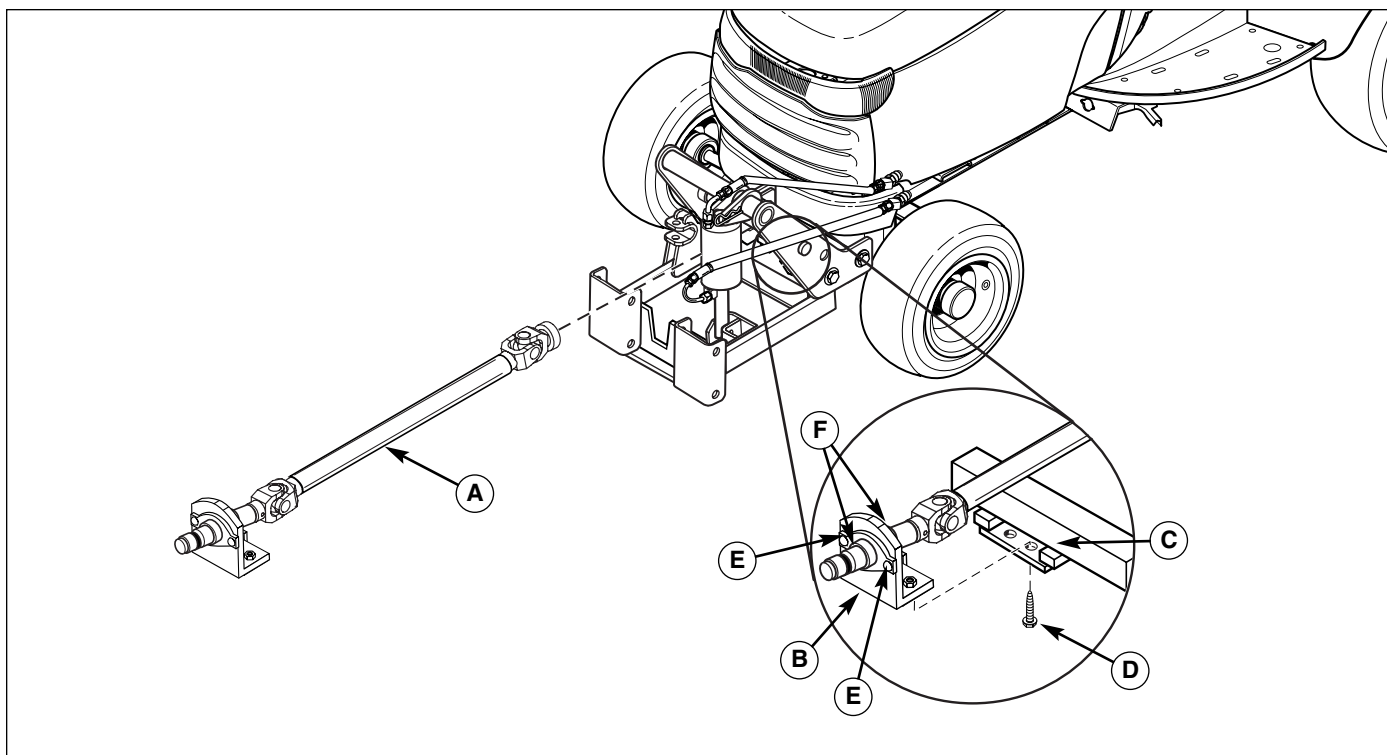
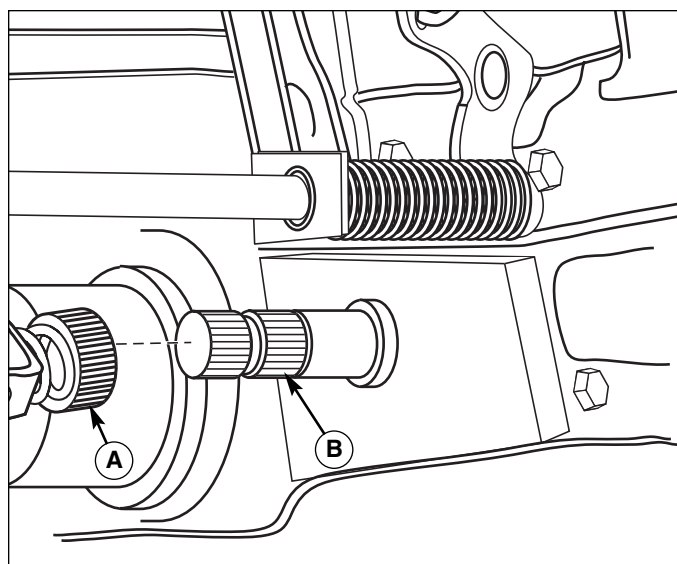

Figure 11. Front Hitch Mounting Brackets
Figure 12. Attachment Lift Extension
1. Slide the drive shaft (A, Figure 11) in from the front. Line up the support bracket (B) with the front hitch (C). Simultaneously line up the the locking collar of the drive shaft (A, Figure 12) with the gear drive of the transmission (B).
2. Slide the support bracket (B, Figure 11) in to the front hitch (C) about 1/2". Connect the locking collar (A, Figure 12). Pull back on the locking collar (A) and slide the drive shaft fully onto the transmission (B). Release the locking collar and pull back on the drive shaft until the locking collar locks onto the shaft.
4. Slide the support bracket (B, Figure 11) all the way into the front hitch (C). The support bracket (B) should be touching the front hitch. Tighten cap-screws (D).
Note: If the support bracket does not touch the front hitch (C, Figure 11) loosen the set collars (F) carriage bolts and nuts (E) holding the bearing holders. Slide the bracket to the front hitch (C) and tighten the set collars (F) carriage bolts and nuts (E). Secure the bracket with the capscrews.